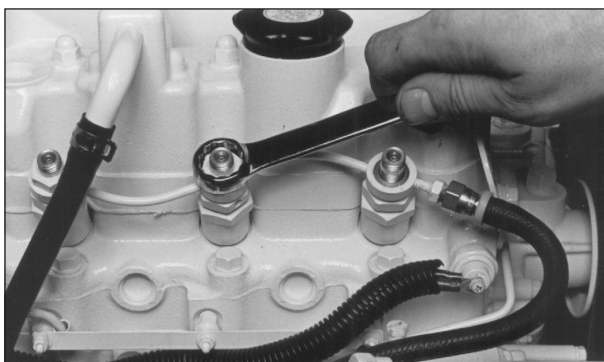

Figure 9: Remove return line nuts.
- c. Remove delivery lines by disconnecting from injectors and injection pump (Figure 9). Remove all lines as an assembly; do not remove the spacers. Cover the ends of the lines, the injector inlets and injection pump outlets to keep dirt out.